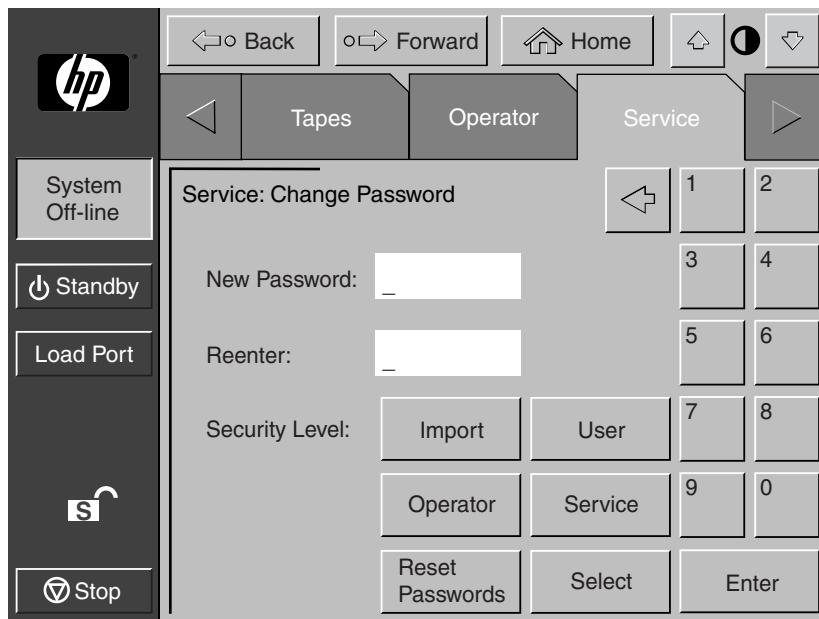

Figure 3-6: Change Password screen
1. Press the **Lock** icon. The Password screen appears (see Figure 3-6).